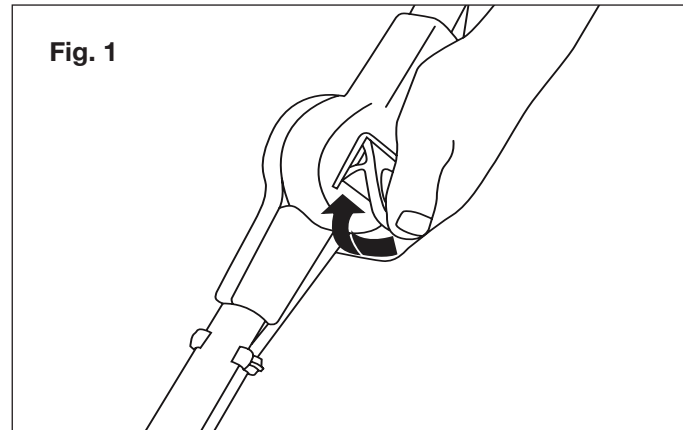

Fig. 1
1. Secure the connection of the middle handle assembly to the upper handle by fastening the handle locks on each side (Fig. 1).